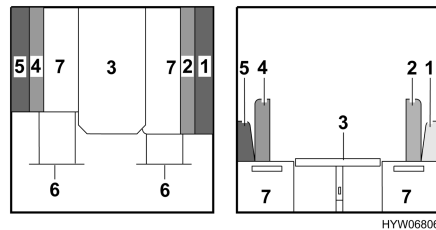

Fig. 36 During conversion
- Pull out the bedding box extension (Fig. 36,6).